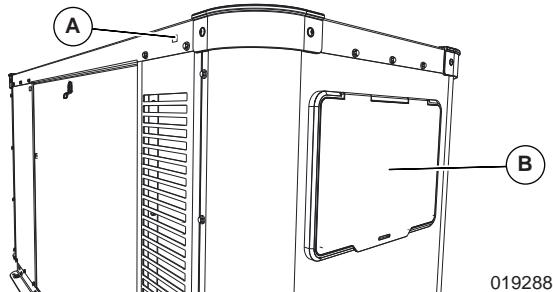

Figure 6-3. Generator Emergency Shutdown Rocker Switch Locations
1. See Figure 6-3. Verify generator emergency shutdown rocker switches (A) and (B) are ON.